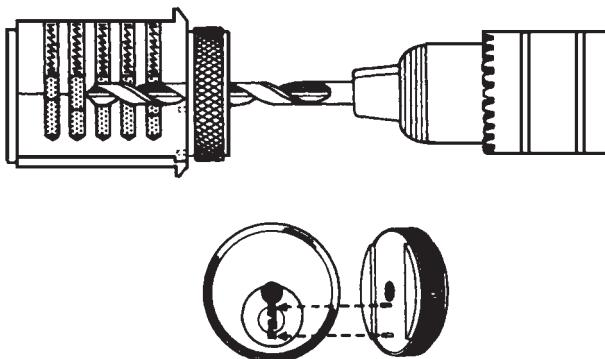

Figure 17.1 A drilling jig can help you drill straight. (Desert Publications)
2. Drill about $\frac{1}{8}$ inch above the shear line or shoulder of the plug and directly above the top of the keyway (Fig. 17.1). A drilling jig can be useful to ensure that you drill at the proper point on the lock face. Use a $\frac{1}{8}$ - or $\frac{3}{32}$ -inch drill bit.